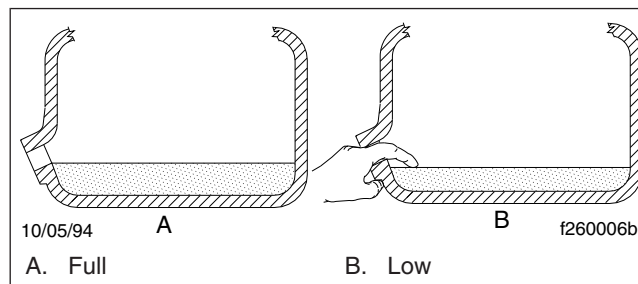

Fig. 1, Transmission Oil Level Checking
- 2.2 Using your finger or a bent pipe cleaner, see if the oil is level with the lower edge of the fill opening. See Fig. 1.